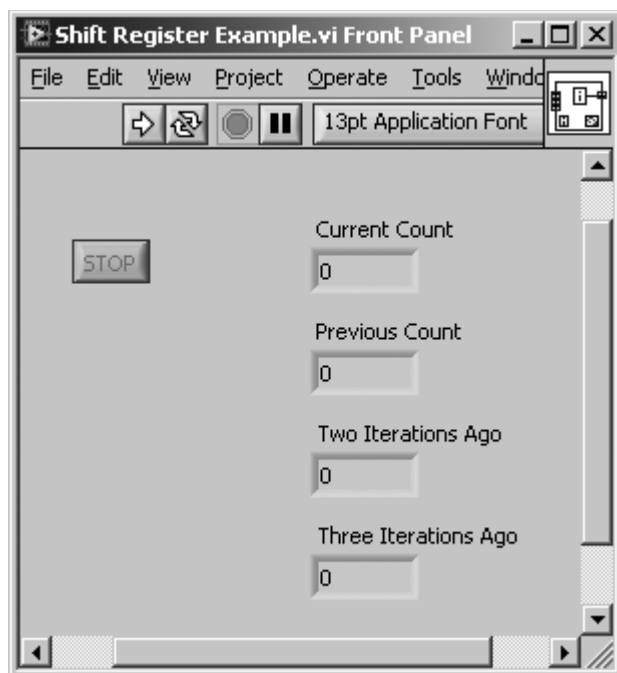

Figure 6.18
1. Open **Shift Register Example.vi**, located in `EVERYONE\CH06` (see Figure 6.18).